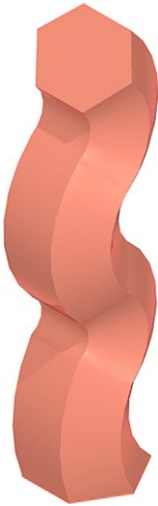

Fig. 18.5 Second example – **Extrude faces tool**
### Second example – Extrude faces tool (Fig. 18.5)
5. Add lighting and a material to the model and render (Fig. 18.5).